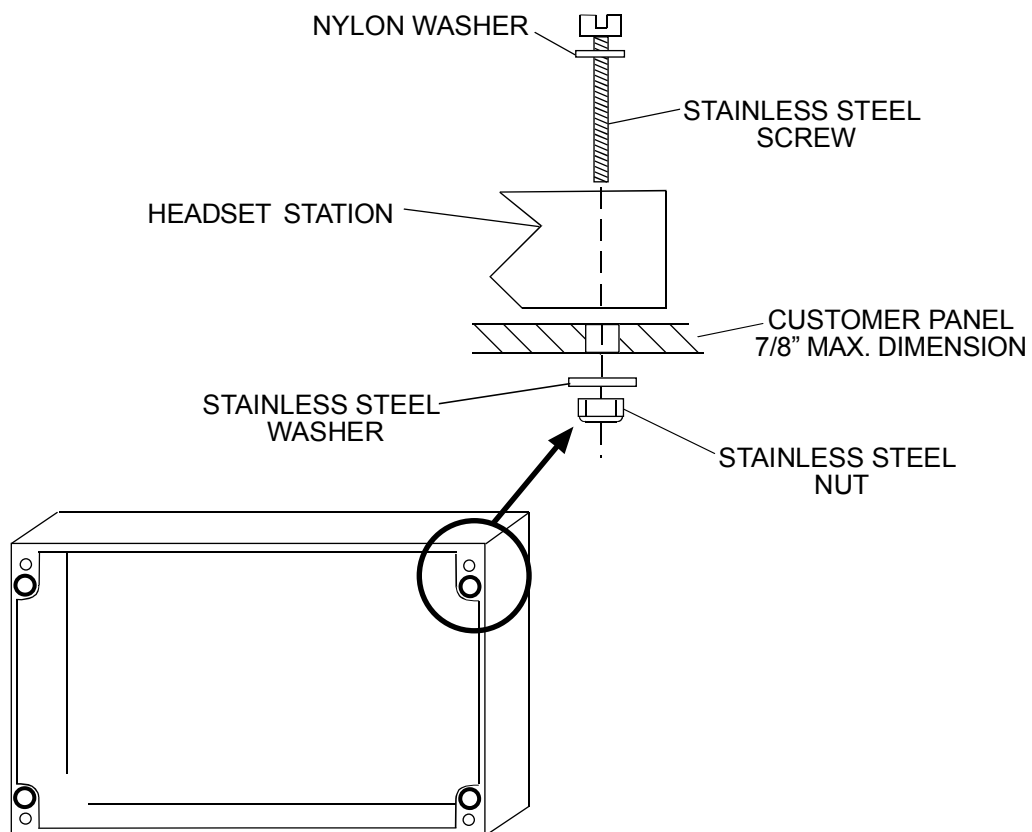

Figure 2: M-RIM Mounting Diagram
- ☐ Using a Philips screwdriver, remove the 4 screws on the cover of the M-RIM and lift off the cover. Observe the 4 mounting holes in each corner, as shown in **Figure 2**.
- ☐ On the backside of the mounting wall, use the provided flat washer and lock nut to secure the M-RIM (**Figure 2**).